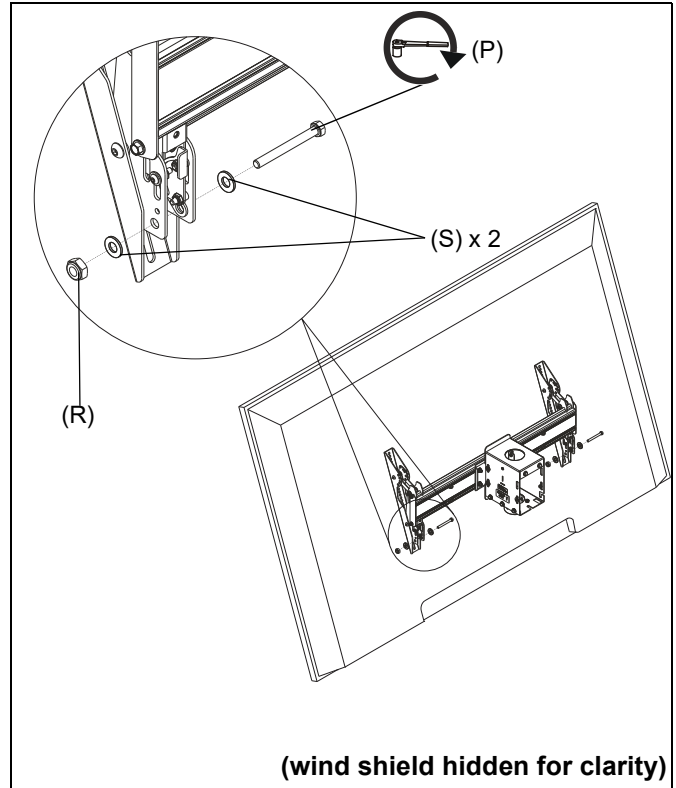

Figure 19
1. Use 5/16-18 x 2" hex head carriage bolt (P), 5/16-18 hex nut (R) and two 5/16" washers (S) to lock each interface bracket latch in place. (See Figure 19)